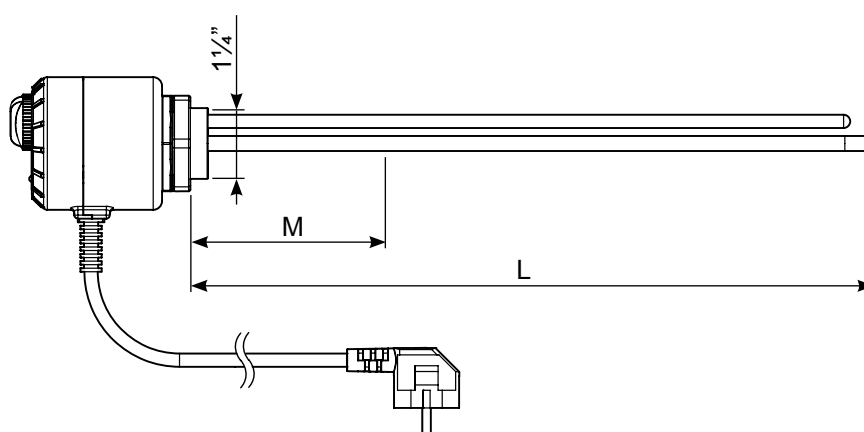

Fig. 7. ME 0015 Geometrical data.
* measured from the heater front (see Fig. 7 or 8).